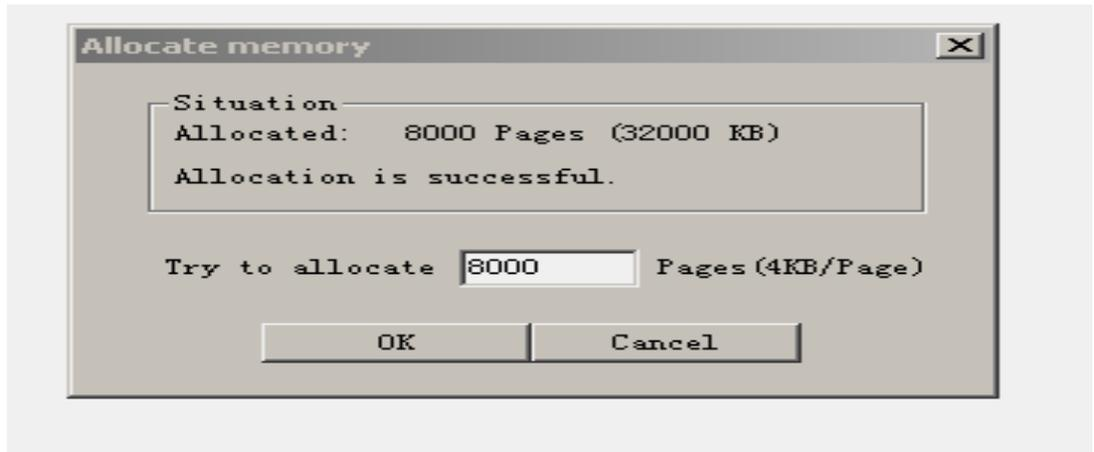

Fig. 3
3.4 Click “Start/Program/Daheng Imavision CGCard/One card performance” to run the demonstration program of image pickup; click “View/Capture” to observe whether the picture in the window is clear. Click “Parameter/Allocate Memory”, set the allocated EMS memory in “Try to allocate” as 8000, shown as in figure 3.